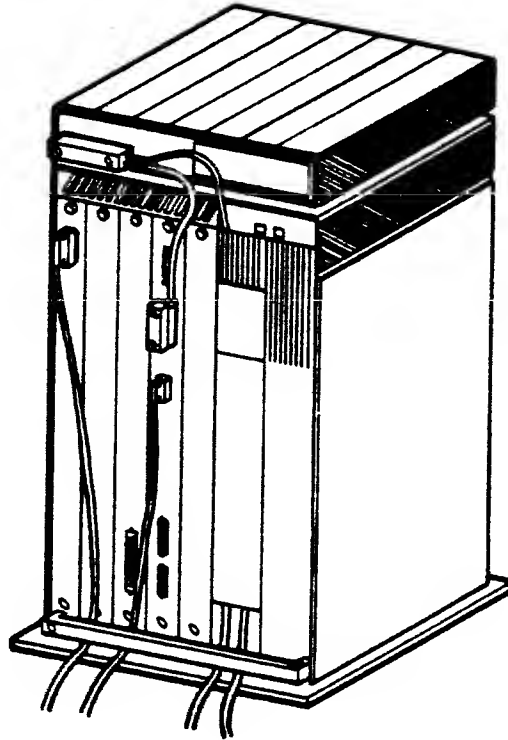

Figure 2-24. Cable Retention Bar Secured
2. Screw the cable retention bar back onto the processor unit (Figure 2-24).